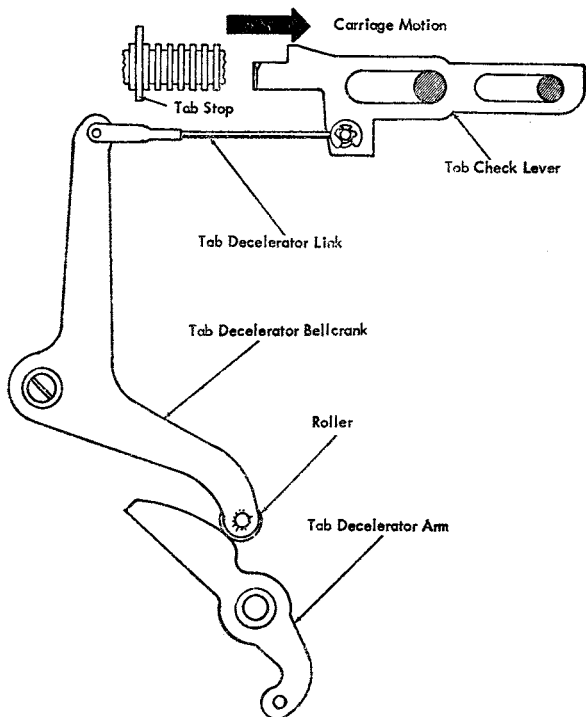

Figure 19. Tabulation Deceleration
and operate the tab decelerator-arm (Figure 19). This action tightens the tab spring-clutch and gives an increased rotation to the already operating centrifugal-governor. This increased rotation slows the carriage during the last portion of a tabulation and absorbs the shock.
**11. DECELERATOR LINK.** Adjust the length of this link to obtain the maximum cushioning of the carriage without interfering with tabulation (Figure 19).